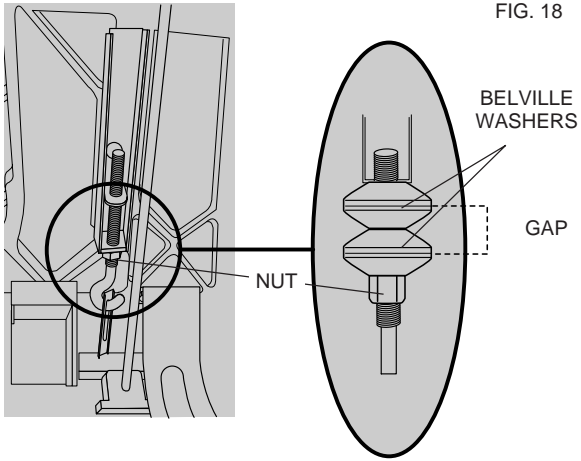

FIG. 18
2. On the underside of your saw, tighten the nut shown in Figure 18. Adjust this nut until the gap between the Belleville washers closes.